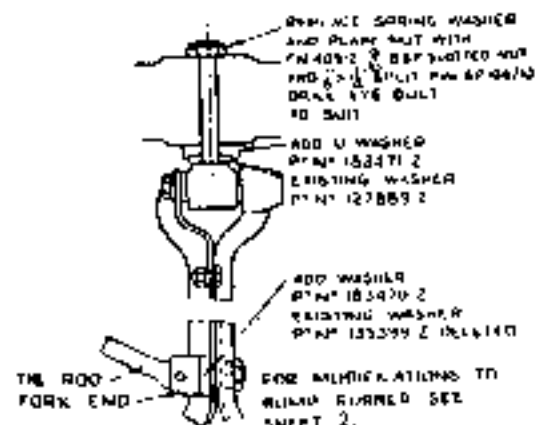

Fig. K.12
- (1) Dismantle the top swivel pin assembly by releasing the pivot pin from the damper arm as detailed in Sections K.4 and K.5.
- (2) Slacken the eyebolt forming the anchorage for the lower suspension arm to the frame and slip the recessed 'U' washer (Part No. 183471) between the existing washer and the frame, as indicated in Fig. K.12. Replace the spring washer and plain